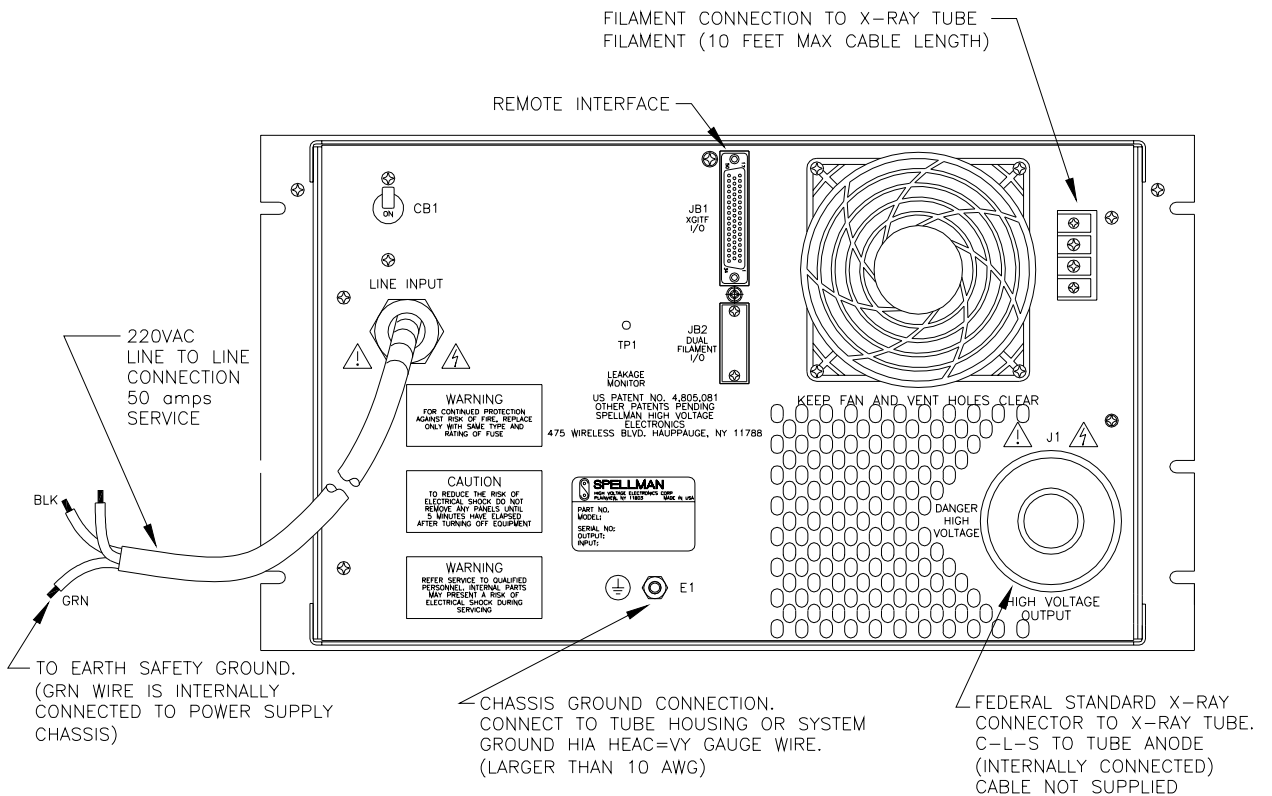

FIG. 3.2 FF4 Typical Operating Setup
C) Proper Grounding Technique: The chassis of the high voltage power supply must be grounded to the local earth ground and also to the tube housing ground. See Figure 3.2 for typical operating setup.